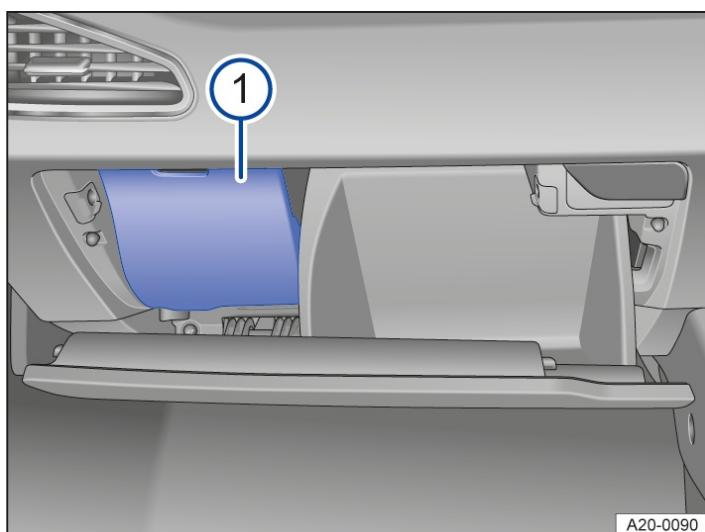

Fig. 2 Right-hand drive vehicle: fuse box cover in the dash panel on the front passenger side.
2. Pull off cover from top → Fig. 2 ①.